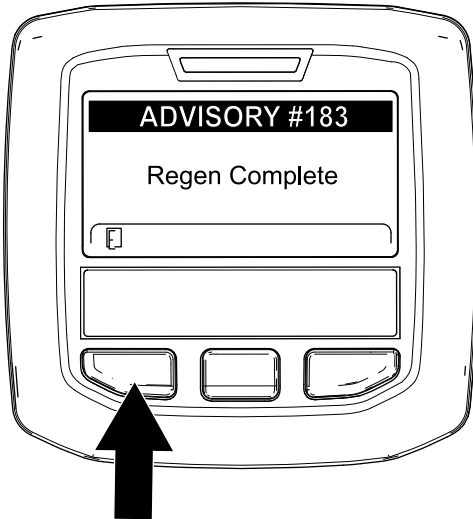

Figure 71
9. When the engine computer completes a parked or recovery regeneration, the InfoCenter displays ADVISORY #183 (Figure 71). Press the left button to exit to the home screen.